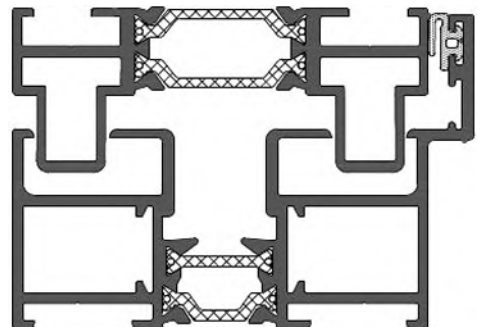

Fig 1.
**2 a)** Insert the 2 corner chevrons into the grooves in the frame head (Fig 1).
**b)** Insert the mechanical corner cleats into the frame head (Fig 1).
- 2 g)** Insert the foam sealing block supplied into the channel of the integrated cill (Fig 1).
- i)** Once the jambs are aligned onto the cill, silicone dip the machine screws provided and secure (Fig 1).